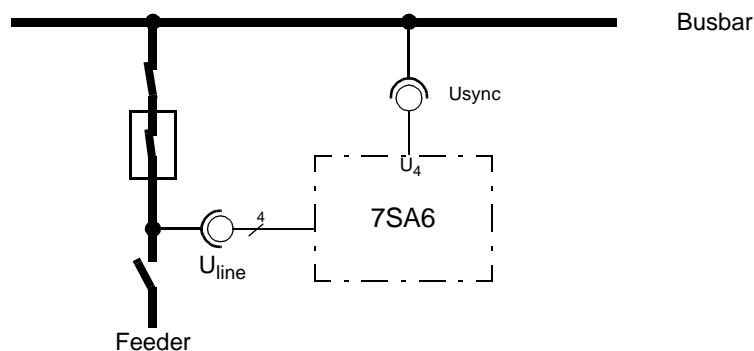

Figure 8-31 Measuring voltages for synchro-check
- ❑ Then the circuit breaker is closed while the line isolator is open (see Figure 8-31). Both voltage transformers therefore measure the same voltage.